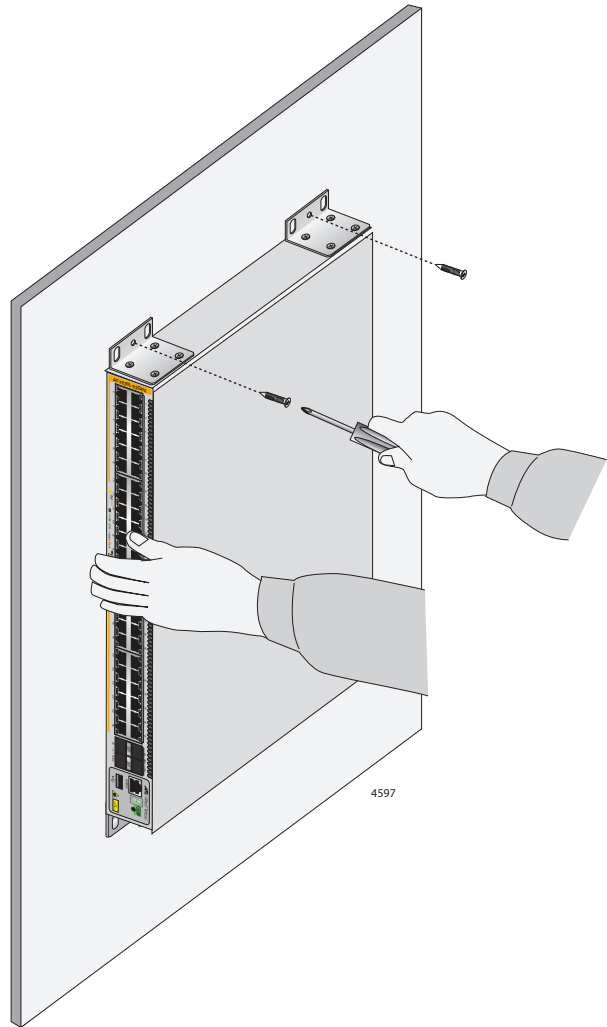

Figure 26. Installing the Switch on a Concrete Wall
7. Have another person hold the switch at the selected wall location while you secure it to the wall with the M4x32mm screws provided. Refer to Figure 26.